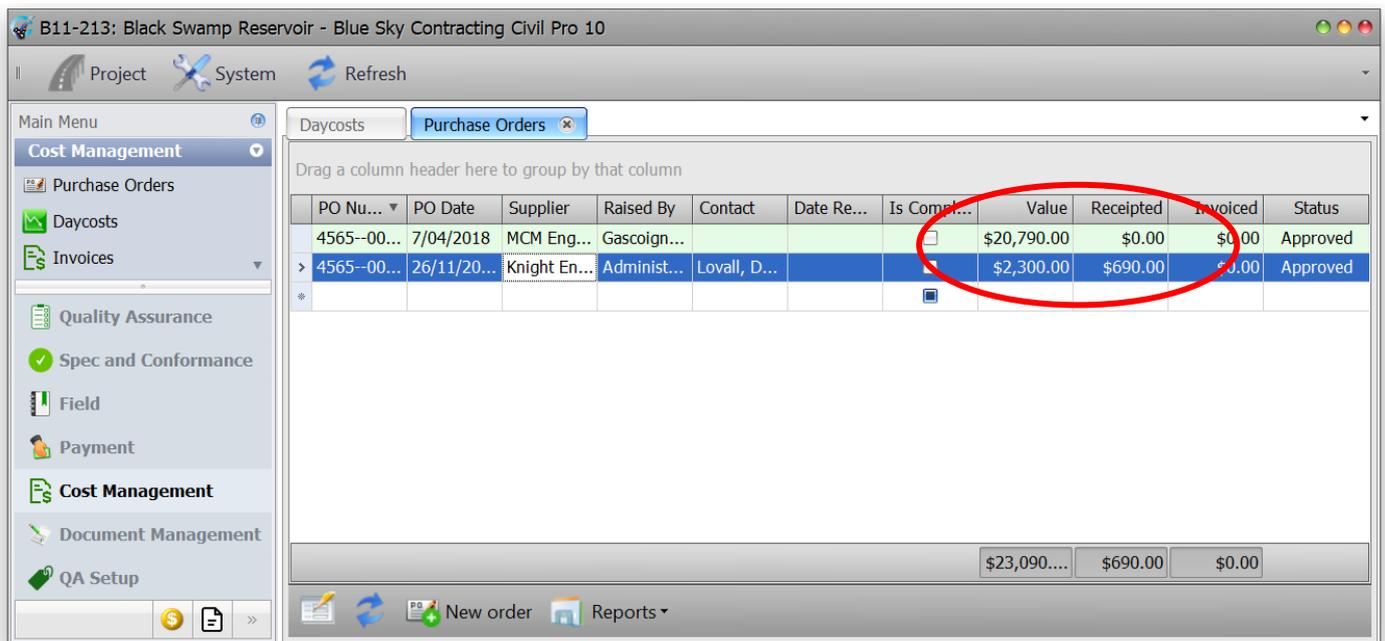

Figure 67 Purchase order register showing received value
- Click *Save & Close* out of the receipt screen then click *Save & Close* out of the PO details screen. You will now be back in the Purchase Order Register. If you look at the Received section of the register you will see that the receipt value will reflect the value of what has been received to date (in this case \$690 out of a total of \$2,300). See Figure 67 below.